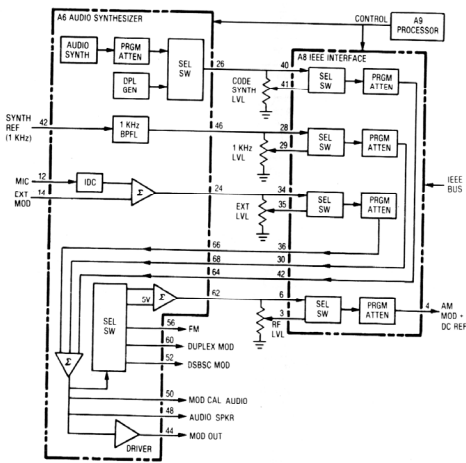

Figure 5-8. Code Synthesizer Block Diagram
5-57. Three simultaneous modulation sources are possible with the internal Code Synthesizer. A private line (PL) or Digital Private Line (DPL) source, a fixed 1 kHz source, and external modulation sources are individually level controllable and summed together to give the composite modulation audio. The Code Synthesizer provides the modulation source for the system in the generate mode and can be used as an audio frequency source when in the monitor mode. For the IEEE option a provision is made to allow processor control of the modulation levels. A block diagram of the Code synthesizer is shown in figure 5-8.